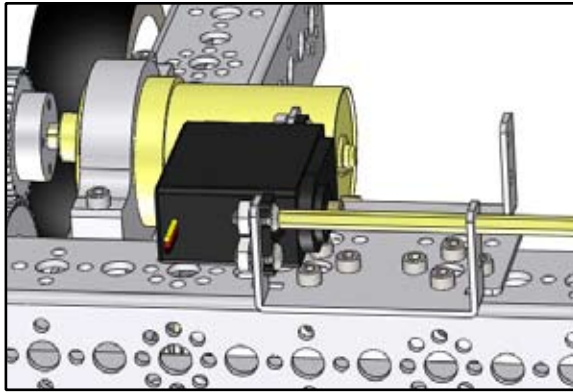

Figure B10
- Place one servo into the double-servo motor bracket so it faces into the bracket (Figure B10). Secure the servo in the bracket with four 3/8" BHCSs and kep nuts.